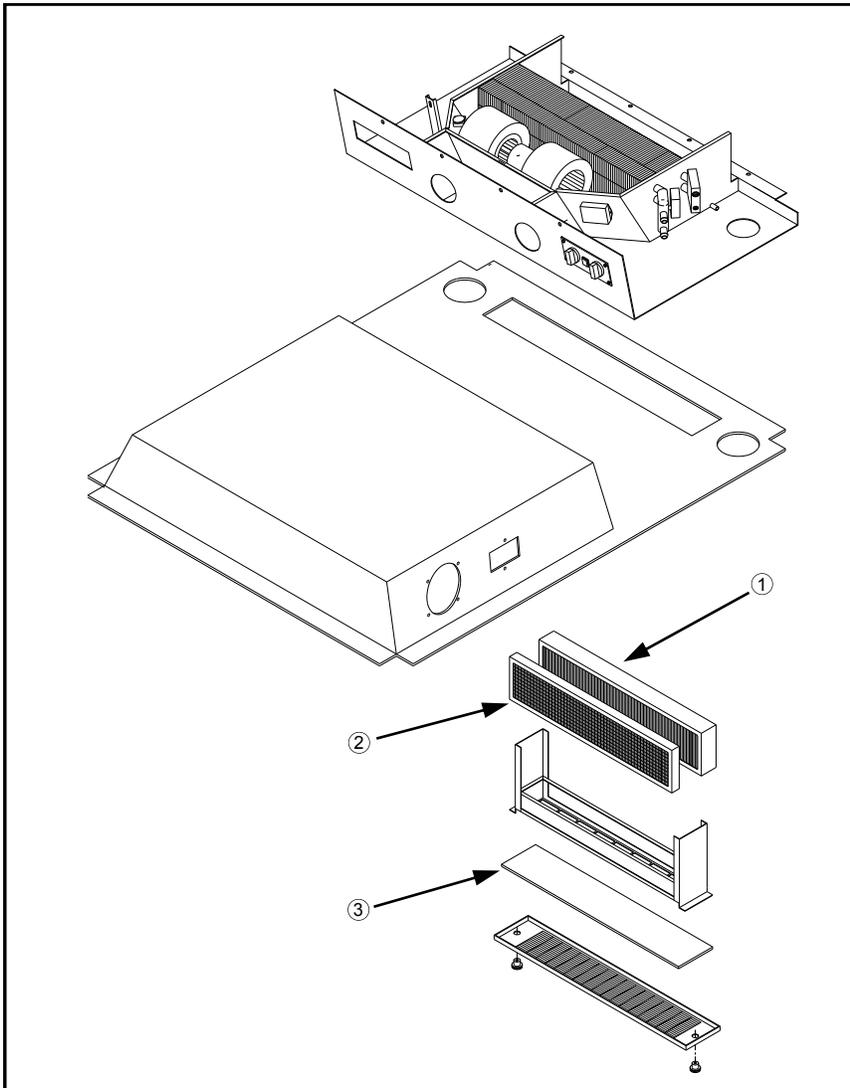

FIG 7.33
PAPER FILTER - (fig. 7.33, item 1) The paper filter should be cleaned once a year, or more often if necessary. Remove the paper element and gently tap it against a flat surface. Direct low pressure compressed air through the filter to remove larger particles. Replace the paper filter if necessary.
CHARCOAL FILTER - (fig. 7.33, item 2) Remove and replace at the first sign of chemical odor entering the cab.
- (fig. 7.33, item 3) The recirculating filter may be cleaned with soap and water. Replace, if it becomes worn.